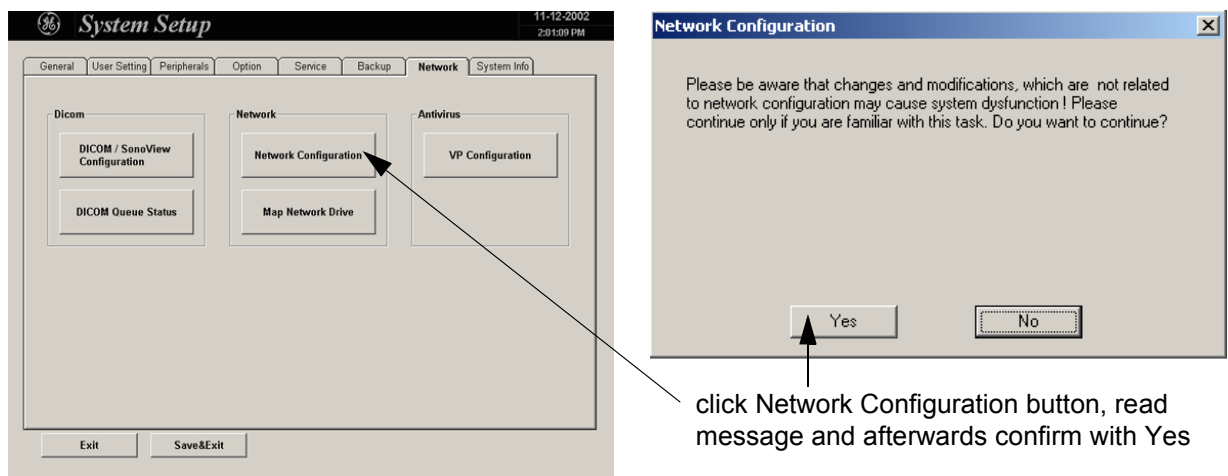

Figure 3-51 Network Configuration
- 1.) Select the MAP NETWORK DRIVE button (in the System Setup - **Network** page, see: Figure 3-51) to open a dialog where the system can be connected to a shared network drive of another server.